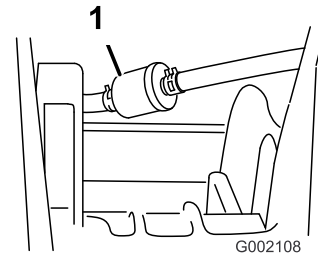

Figure 37
5. Remove the clamps securing the fuel filter to the fuel lines (Figure 37).